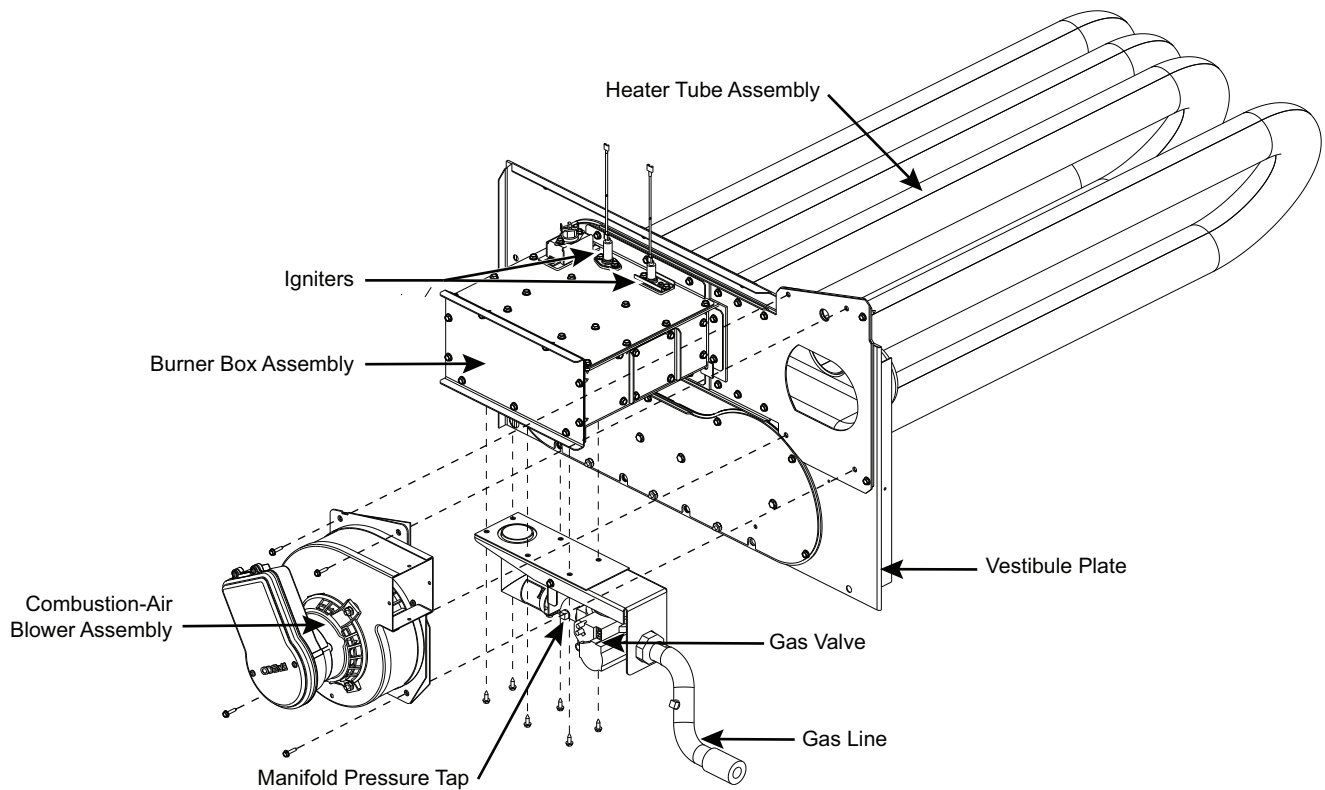

Fig. 47 — Heat Exchanger Assembly
2. Remove the four screws attaching the induced-draft motor housing to the vestibule plate. (See Fig. 47.)
9. Remove the six screws attaching the gas valve assembly to the burner box assembly (see Fig. 47).